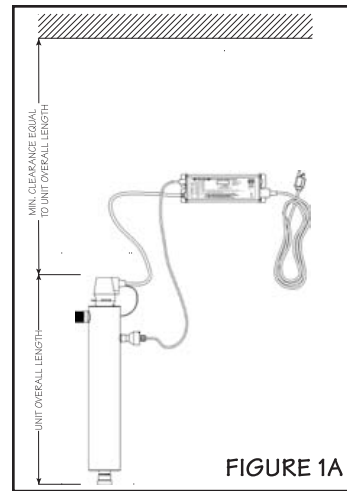

FIGURE 1A
2. Select a suitable location for the disinfection system and its related components. As it is recommended to install a ground fault protected circuit (GFCI), make sure that this is taken into consideration prior to any installation. The system can either be installed vertically (inlet port at the bottom) (Figure 1A), or horizontally (Figure 1B), however the vertical installation is the most preferred method. When selecting a mounting location, you must also leave enough space to allow for the removal of the UV lamp and/or quartz sleeve (typically leave a space equal to the size of the reactor chamber itself). (Note: Installation drawings show "PLUS" system with UV sensor for representation purpose only)